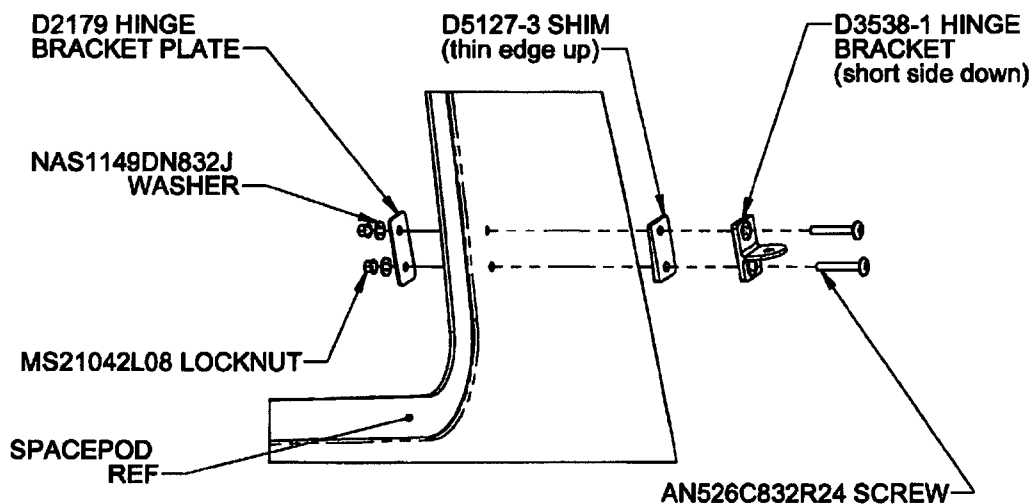

FIGURE 1: SPACEPOD HINGE INSTALLATION
- 2.3 Re-install the D3538-1 Hinge Brackets with the D5127-3 Shims between the Spacepod and Hinge Bracket using the existing mounting holes and fasteners. See Figure 1. The D3538-1 Hinge Brackets should be oriented as per Table 1. It may be necessary to reverse the orientation, as required, on some Spacepod bodies. Furthermore, due to normal variations in the Spacepod geometry, additional shimming may be required. It is acceptable to use Hysol Liquid Shim, thin washers or shims fabricated from 6061-T6 aluminum for this purpose.